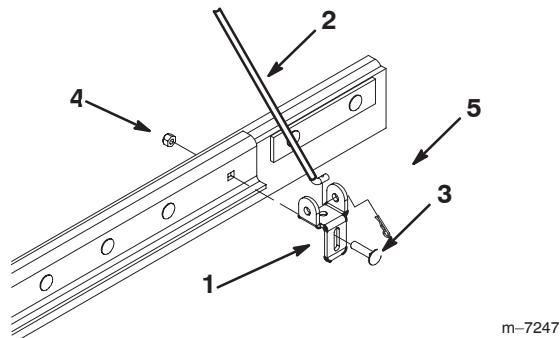

Figure 7
- 4.** Install the adjuster bracket for the 52 inch decks at the hole closest to where the lift rod reaches the striping assembly (Fig. 7).
- 5.** Secure the adjuster bracket using a carriage bolt (5/16 x 1-1/4 inch) and lock nut (5/16 inch), as shown in Figure 7. Do not tighten to allow for later adjustment.
- 6.** Insert the bent end of the lift rod into the top hole of the bracket and secure it with a hair pin (Fig. 7).